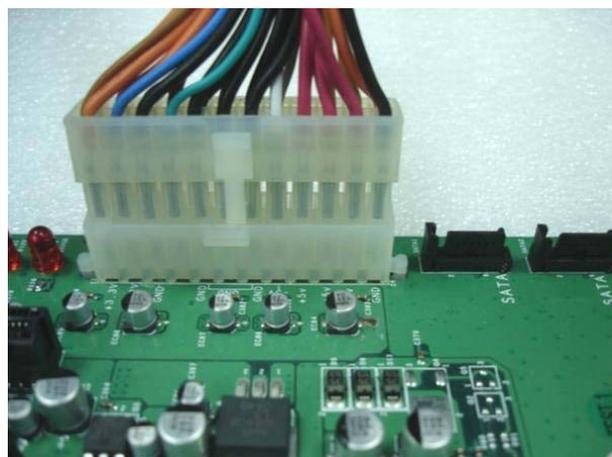

Figure 5-3
Step3: Connect 24-pin power cable of the ATX POWER with ATX POWER CONNECTOR (24-pin) on the backplane. (Figure 5-3)